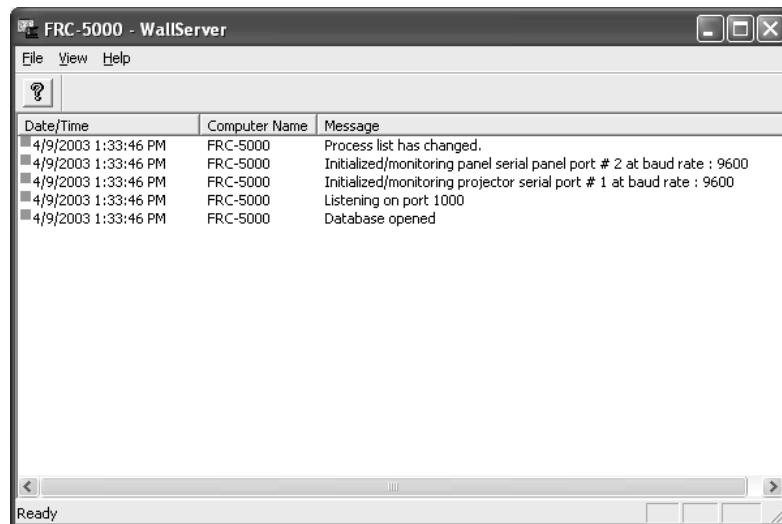

Figure 7.2. **WallServer Main Window on Display Wall**
- 1) Using the FRCAdmin account, start **WallServer** by double-clicking the **WallServer** icon on the controller's desktop (or use **Start** ⇒ **FRC-5000** **MASTERSuite** ⇒ **WallServer** in Windows). This will call up the main **WallServer** window (Figure 7.2).